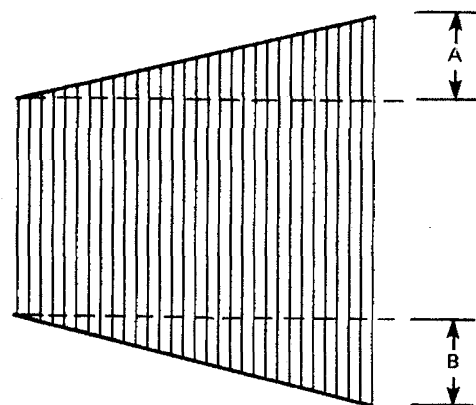

Figure 6-8. Modulator Symmetry Adjustment
5. Adjust CARRIER LEVEL for the waveform shown in Fig. 6-8.
6. Adjust VR207 to equalize the A and B parts of the waveform shown in Fig. 6-8.